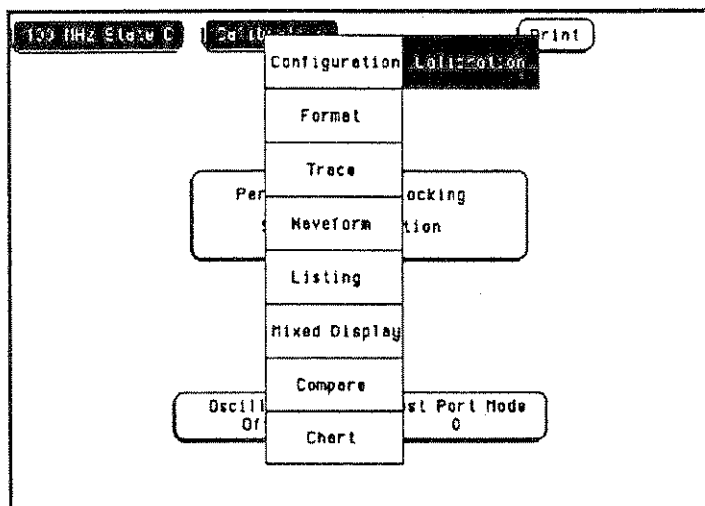

Figure B-14. Exit Calibration
- To exit the calibration menu, touch Calibration, then touch Configuration in the pop-up menu. See figure B-14.